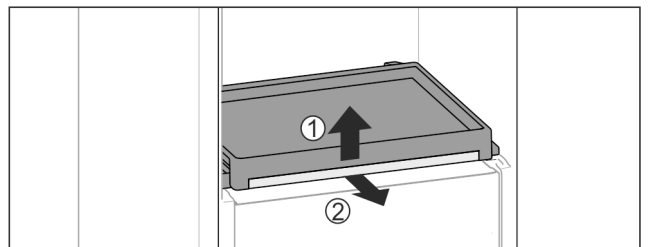

Fig. 49
- To remove the pull-out board with glass panel: Gently lift the glass panel at the front Fig. 49 (1) and pull out to the front Fig. 49 (2).